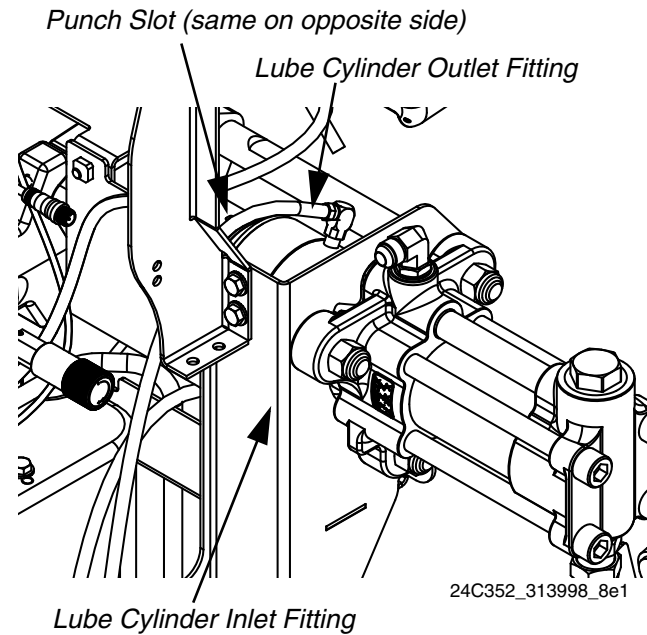

FIG. 5: Lube Cylinder, Viewed from Rear Left of Machine
3. Install lube cylinder inlet and outlet fittings. See **FIG. 5**. Apply thread sealant to threads.